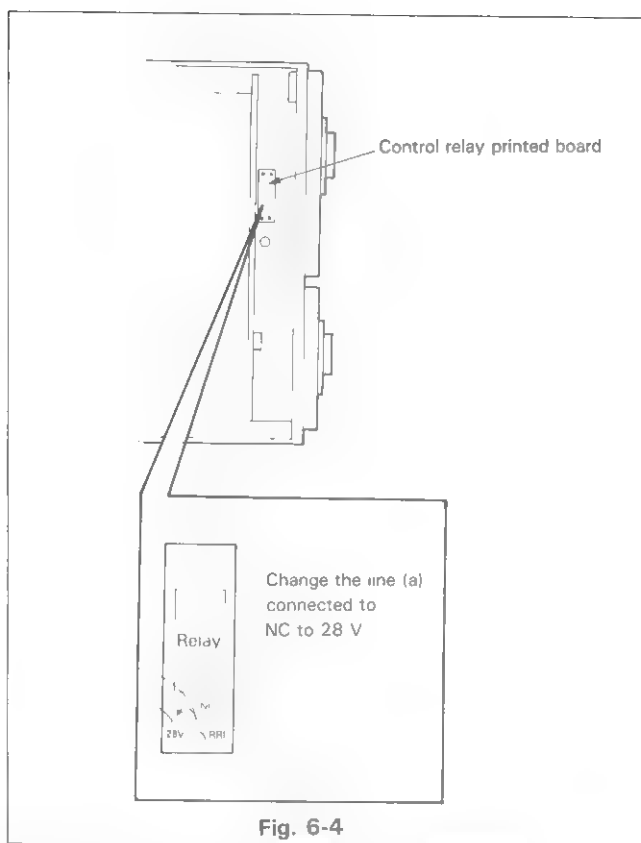

Fig. 6-4
Kenwood linear amplifier TL-922 can be connected to this unit with its remote cable. However, when a linear amplifier other than the TL-922(A) is used, change the connection as shown in Fig. 6-4.